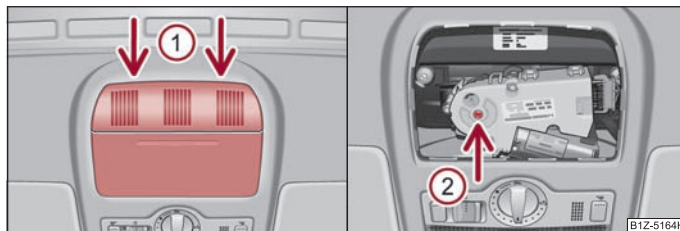

Fig. 36 Detail of the headliner: Points for positioning screwdriver/opening for positioning the key
- Position the flat blade of a screwdriver carefully against the rear edge of the cover for the electrical drive at the points of the arrows **1** ⇒ fig. 36 on the left.
- Insert an Allen key, Group 4, up to the stop into the opening at the point of the arrow **2** and close and/or open the sliding/tilting roof ⇒ fig. 36 on the right.